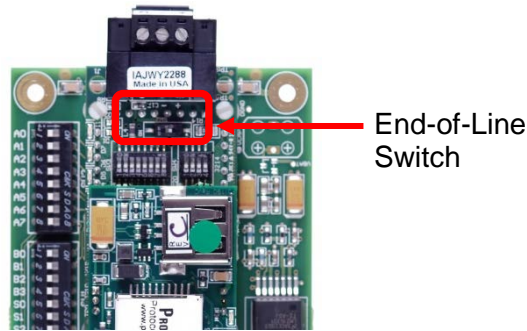

Figure 3-6: RS-485 BMS Network EOL Switch
- If the ProtoNode is the last device on the BACnet MS/TP or Metasys N2 trunk, then the End-Of-Line Termination jumper needs to be enabled (Figure 3-6).